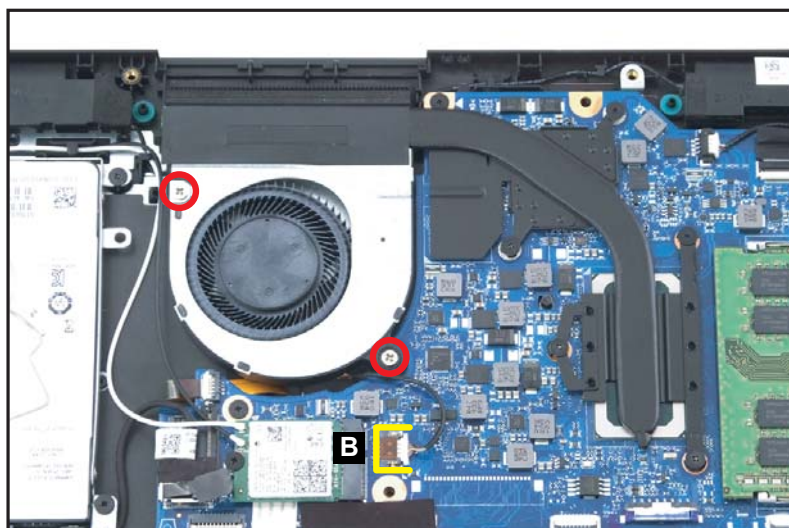

Figure 1-113. Replacing the Fan
2. Install and secure two (2) screws to the fan (Figure 1-113).
3. Connect the fan cable to the mainboard connector (B) (Figure 1-113).